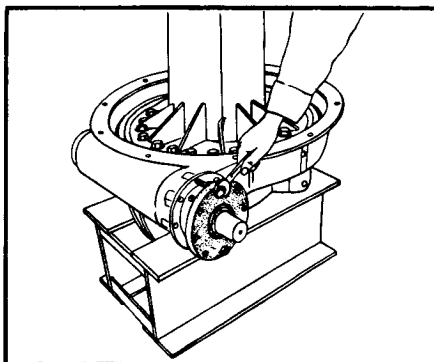

Figure 49 Replacing Worm Shaft
for the worm shaft assembly, which is the next item to be inserted. Using a varied length capscrew, $\frac{1}{2} \times 3\frac{3}{4}$, $\frac{1}{2} \times 2\frac{3}{4}$, and regular cover capscrews, draw the worm shaft assembly into place, seating in the housing, Figure 49. Remove the cover and using a sealing compound (shellac, etc.), insert the oil seal into the cover as well as the oil seal in the worm housing. Use enough gaskets to seal off the housing and use oil seal adapter tool (1), Figure 50, to bolt the bearing cover (2) into place. The special tool part number is 152-6621.